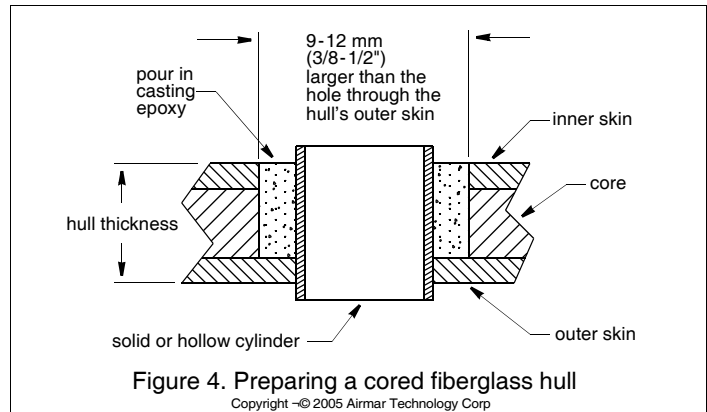

Figure 4. Preparing a cored fiberglass hull
2. Using a 51 mm or 2" hole saw, cut the hole from outside the hull through the *outer* skin only (Figure 4).